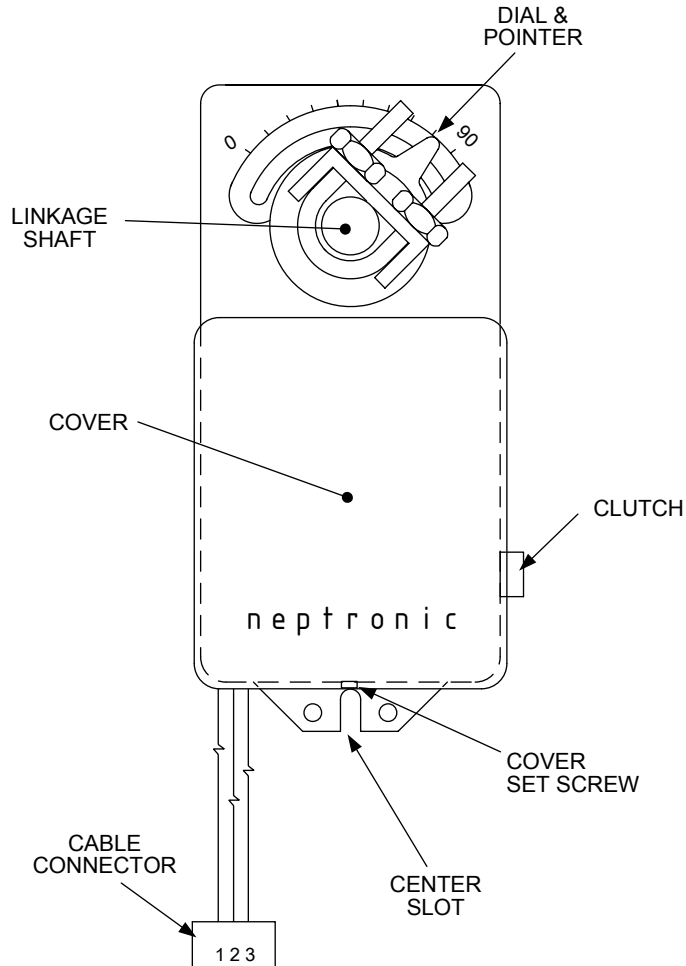

Figure 8-5. Actuator Replacement
- CM49. To install the replacement Actuator, depress and hold the Clutch button (Figure 8-5) and rotate the pointer to approximately 80° on the dial. Release the Clutch.
- CM51. Ensure that the pin on the Linkage Assembly is inserted in the center slot on the bottom of the Actuator (Figure 8-5).